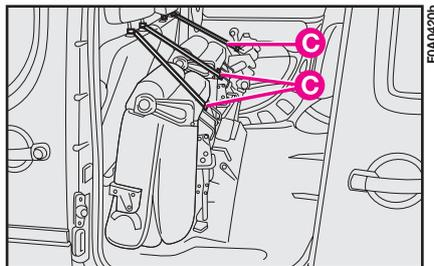

fig. 131
- secure tilted seats by the proper belts **C-fig. 131** (one per seat) to the front headrests.
To re-position the seats, release the belts **C-fig. 131**, tilt the side seats and the central seat cushion then pull band **A-fig. 129** to tilt the seat back and anchor it to the proper brackets.